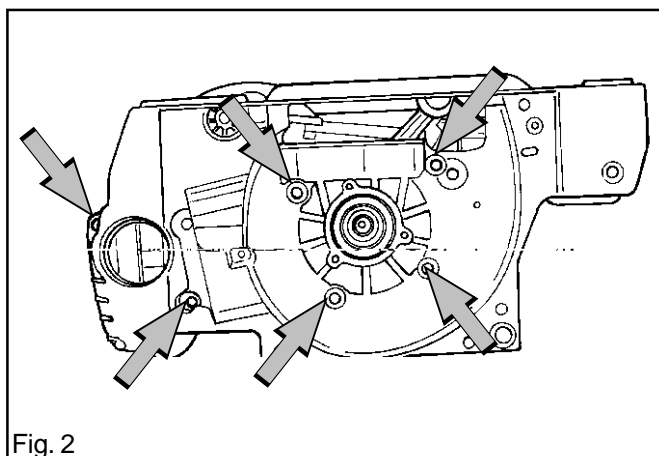

Fig. 2
4. Remove the six bolts on the flywheel side. See fig. 2.